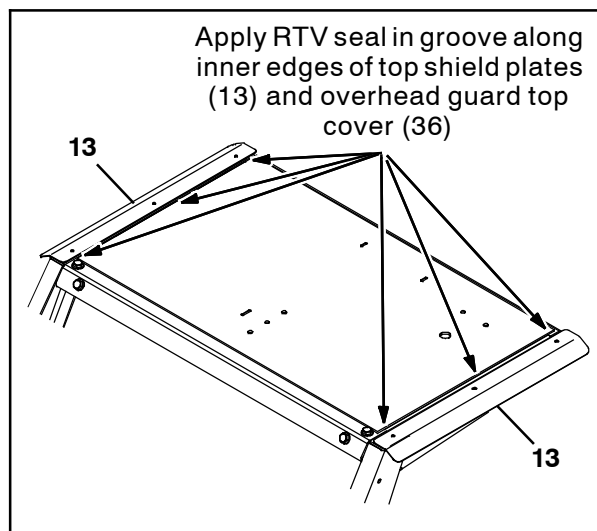

FIG. 3
38. Apply RTV seal in the groove between the inner edge of both top shield plates (13) and the top cover (36). (Fig. 3)